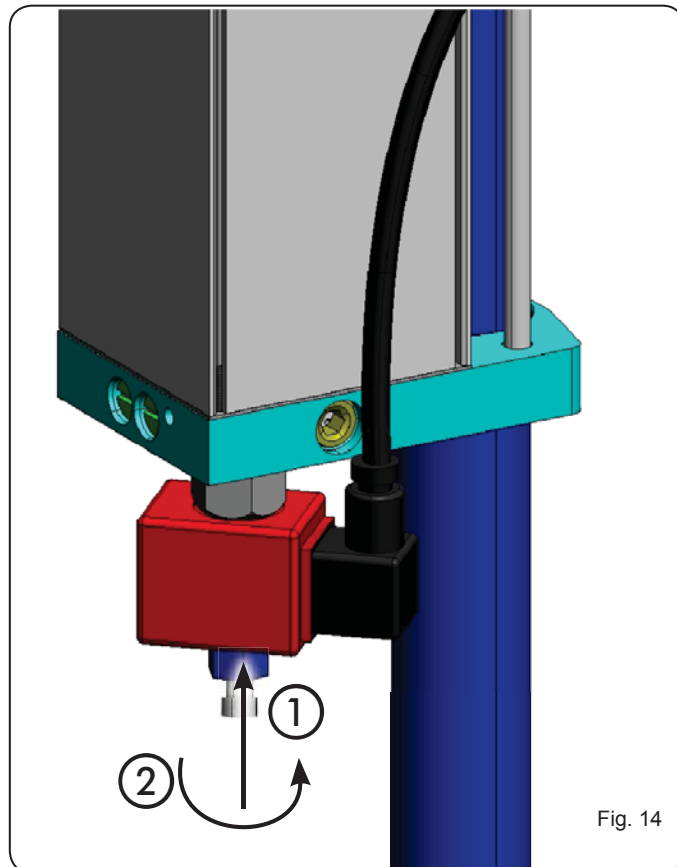

Fig. 14
2. press completely the pin at sight on the solenoid valve (fig. 14 ref. ①)
3. turn the pin to end of stroke as shown in figure (fig. 14 ref. ②).